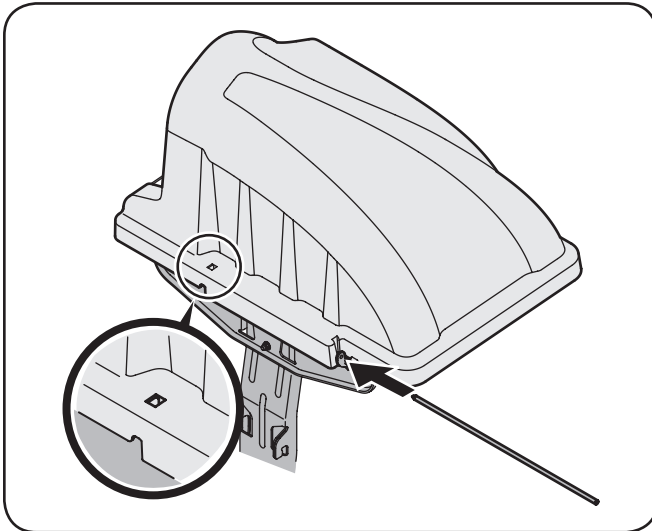
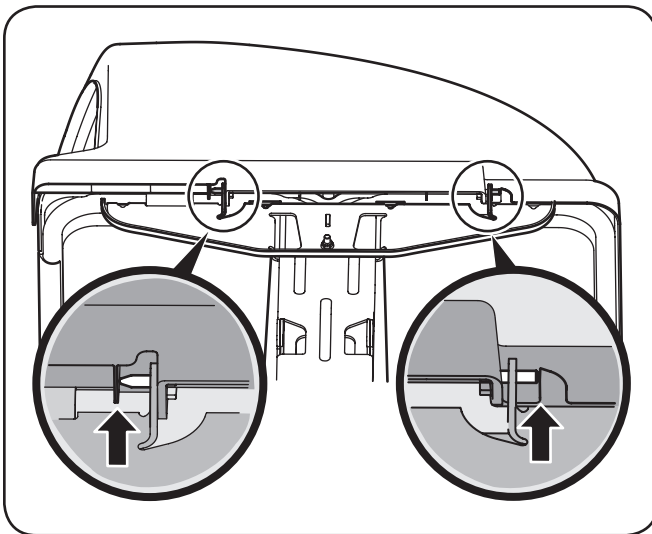

Figure 4-14
Figure 4-15
6. Slide the hinge pin into the hole located on the mounting tab, as in Figure 4-14. Use the cut-out window (See inset in Figure 4-15) to line up the hinge pin on the other side and push pin all the way in until it reaches the end-stop. At this point the pin clips into place and is secured by a tab in the bagger cover. See Figure 4-15.